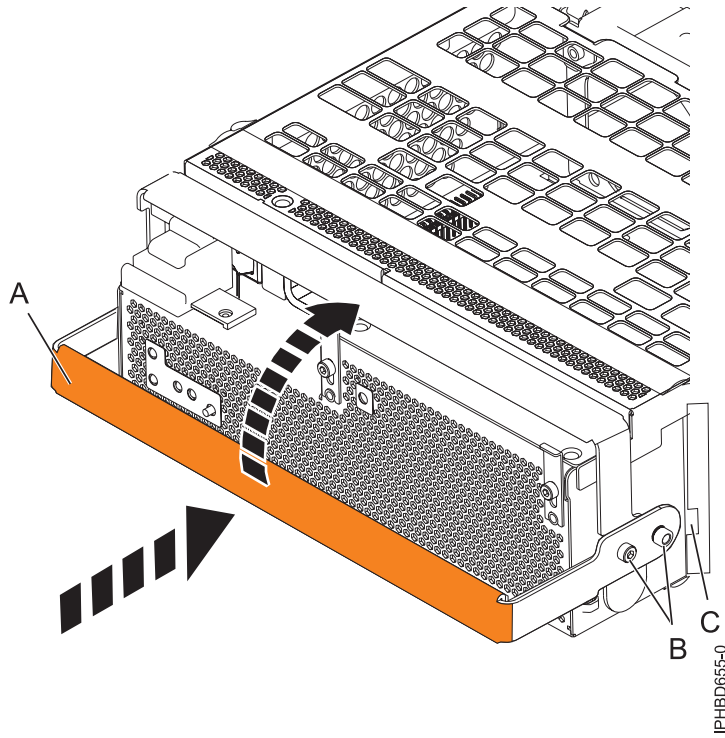

Figure 101. Replacing a power supply
10. To replace the power supply, with the locking handle (A) in the open position, push the power supply into the expansion unit as shown in Figure 101 on page 104.
11. Close the locking handle (A) until the power supply locks into position.